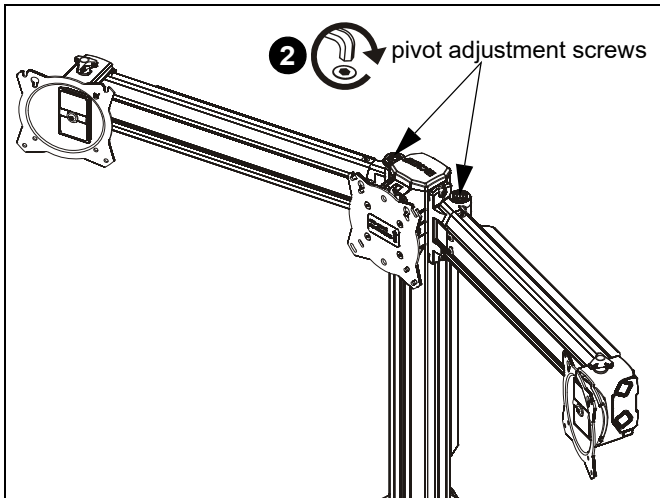

Figure 21
- When arms are at desired pivot position, lock pivot position by tightening pivot adjustment screws using 5/16" hex key (Q). (See Figure 21)